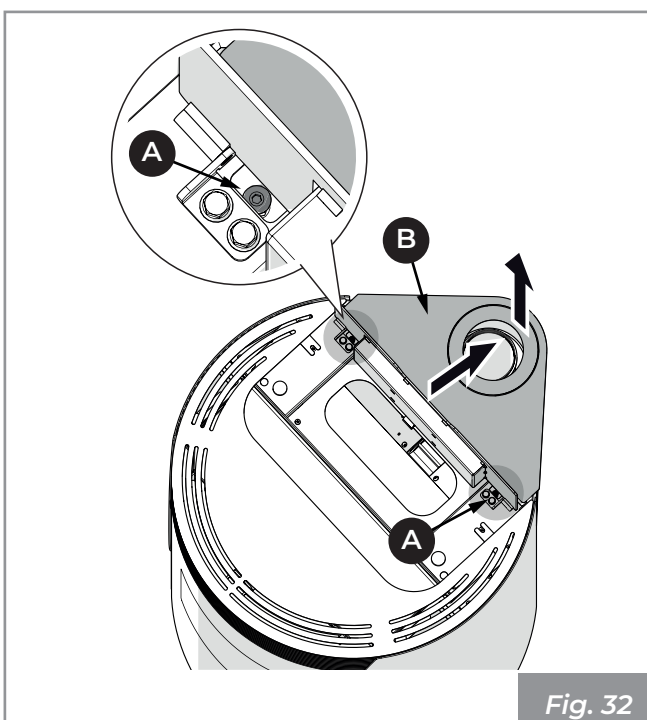

Fig. 32
- Loosen the screws **(A)** and remove the surface **(B)** (Fig. 32).